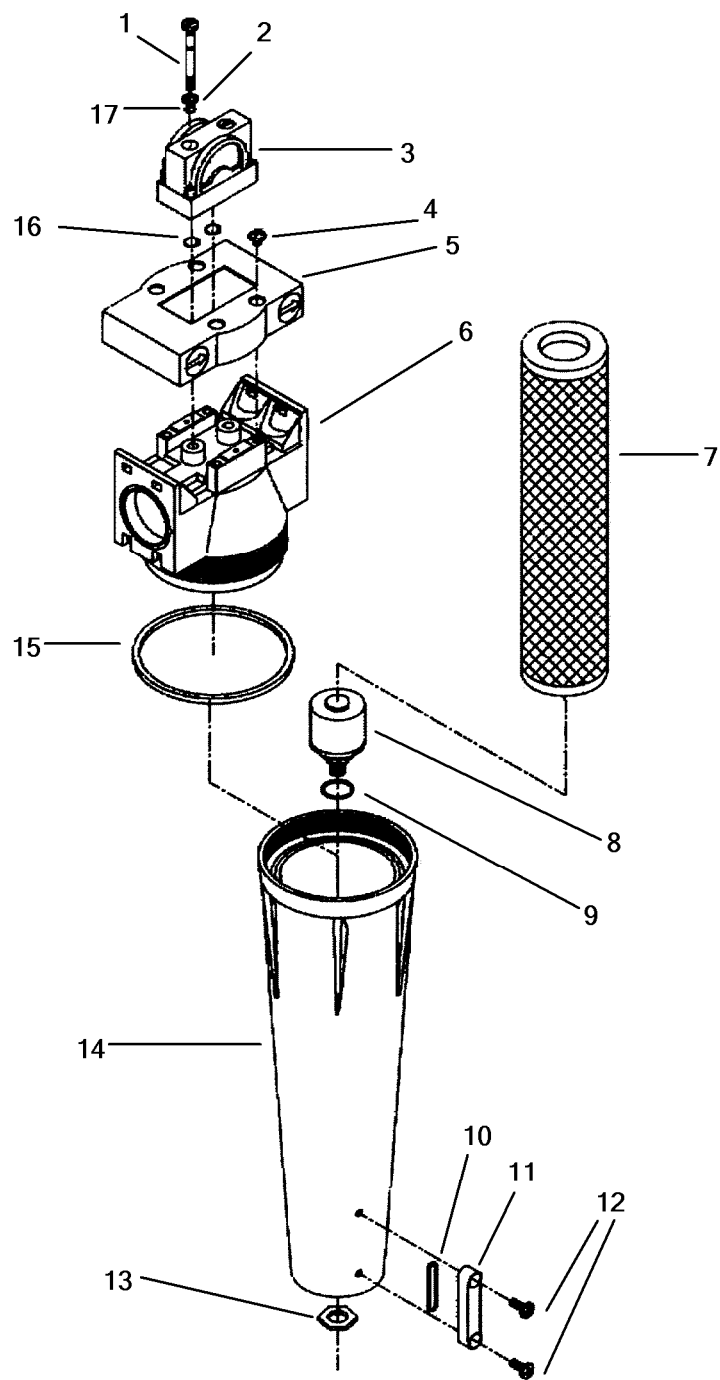

FIGURE 2-8B. Coalescer Filter.
2-14.2. Repair Coalescer Filter. (FIGURE 2-8B)
- a. Remove bowl (14, FIGURE 2-8B) and bowl O-ring (15) from filter head (6).
- b. Remove filter element (7).
- c. Remove retaining nut (13) from bottom of bowl (14). Remove drain valve (8) with O-ring (9).
- d. Remove screws (12) to remove fluid indicator (11) and gasket (10).
Repair is by replacement of the drain valve (8, Figure 2-8B), O-ring (9), and bowl O-ring (15).
- a. Install gasket (10, Figure 2-8B) fluid indicator (11) and screws (12).
- b. Replace O-ring (9) and drain valve (8). Install retaining nut (13) at bottom of bowl (14).
- c. Install filter element (7).
- d. Install bowl O-ring (15) and bowl (14) onto filter head (6).